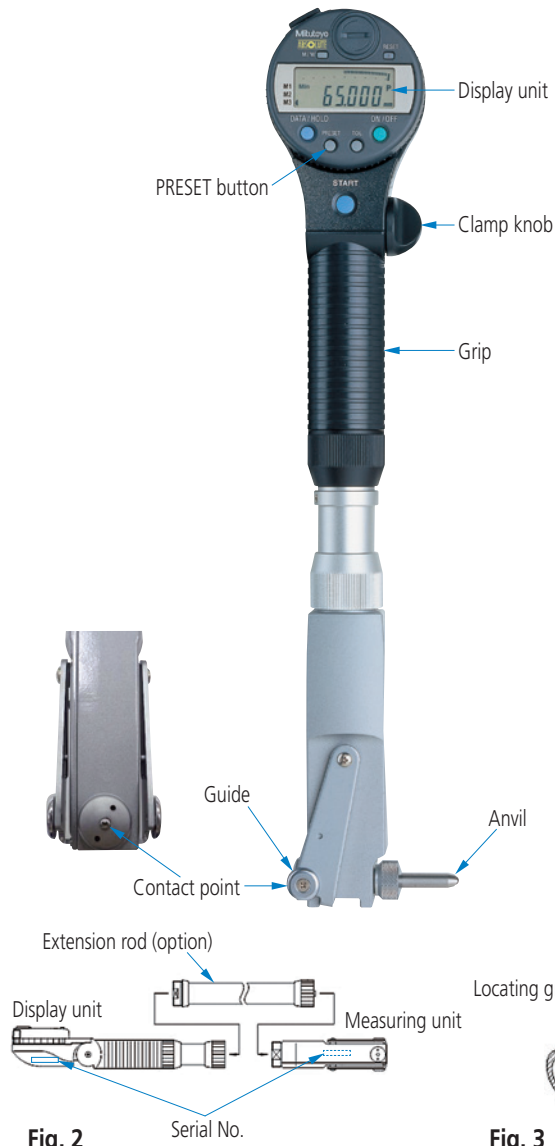
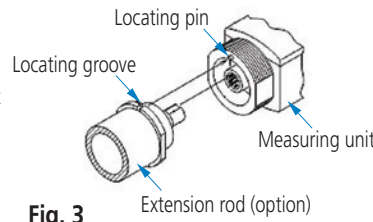

Fig. 2
Fig. 3
2. If it is suspected that contamination is present inside the measuring section, remove the contact point (anvil) using the special spanner, and clean the contact point (anvil) by dipping into an alcohol solution. After cleaning, dry completely and apply a thin layer of a rust preventing light oil to the contact point (anvil). (Fig. 2)
5. Make sure to engage the locating pin with the corresponding groove when connecting an extension rod (optional) (Figs. 2 and Figs. 3).